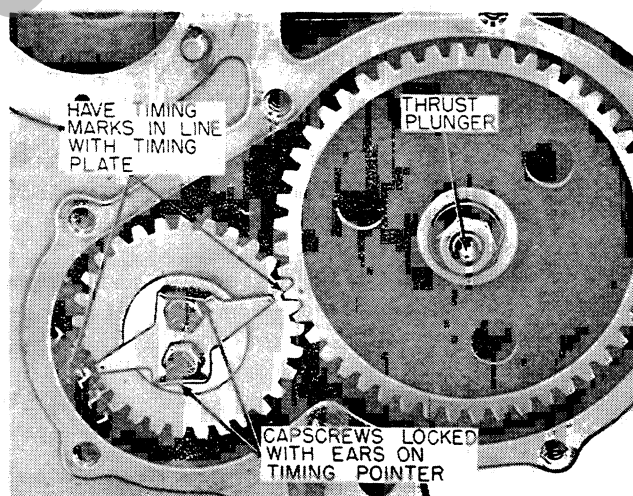

Figure 26 - Timing Marks on Camshaft Gear and Injection Pump Drive Gear Correctly Aligned
1. Install pump driveshaft into pump drive gear and secure with washer and jam nut. Tighten nut to 35 to 40 ft. lbs. torque, see Figure 26.
2. Insert shaft and gear into position on engine making sure punch marks on pump drive gear and camshaft gear are in alignment with pointer on pump drive idler gear, see Figure 26.